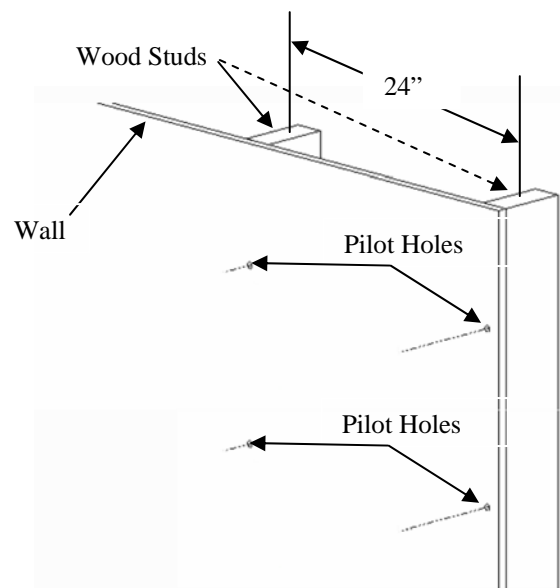

Figure 4. Wood Studs 24" Apart on Center
- Refer to Figure 4 for dual wood studs that are 24" apart on center.